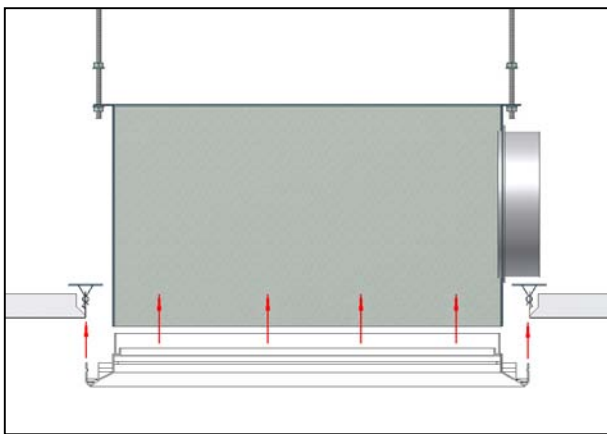

*Figure 3: Push Clip inwards to release*
4. Push the Bunny Ear Clip towards the centre of the Diffuser. This will disengage the Clip from the Outer Frame and release that side of the Core. (See figure 3).